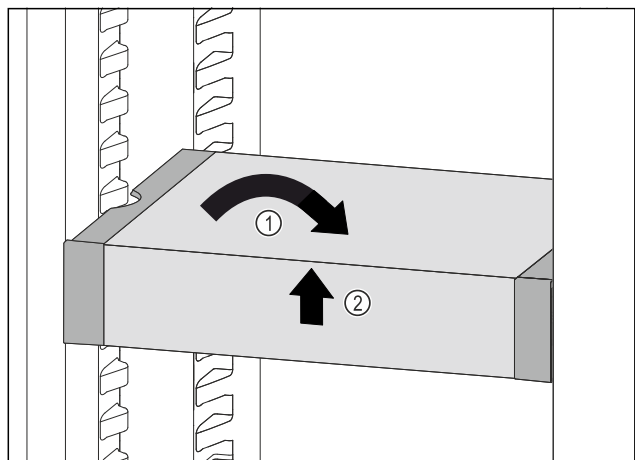

Fig. 99
- ▶ Set VarioSafe straight. Fig. 99 (1)
- ▶ Lift VarioSafe at the front. Fig. 99 (2)